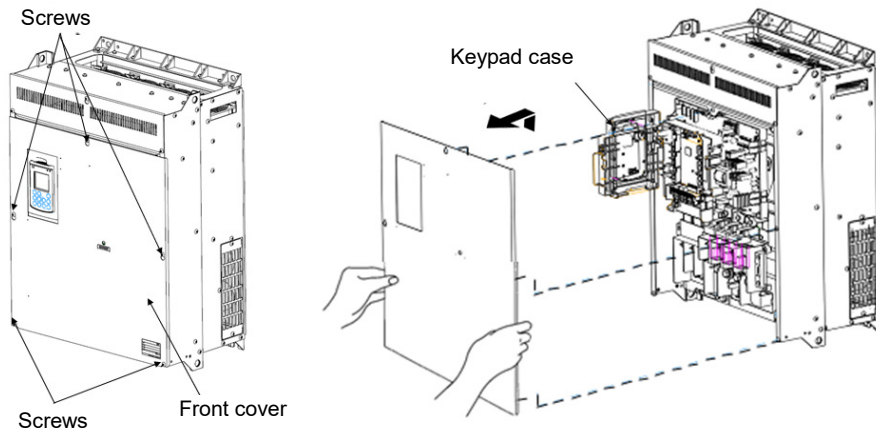

Figure 2.3 Removing the Front Cover and the Wiring Plate (FRN110AR1S-4□)
- ① Loosen the screws on the front cover, hold the right and left ends of the front cover, and slide it up to remove it.
- ② After making the necessary wiring connections, align the top of the front cover with the holes on the unit and reattach the cover by reversing the process illustrated in Figure 2.3.